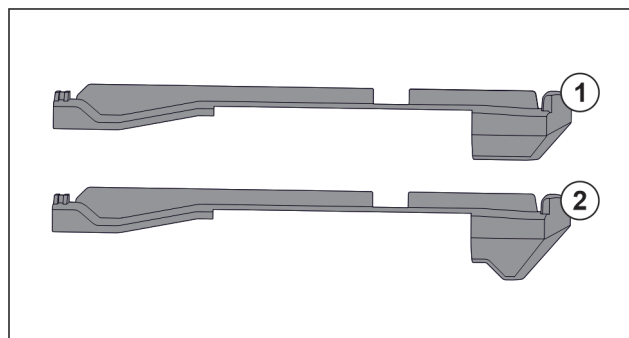

Fig. 113 Comparing attachments
There are two different attachments in the appliance. The attachment above the lowest drawer Fig. 113 (2) has a three-cornered edge. All other attachments Fig. 113 (1) have a straight edge.
- Fit attachment Fig. 113 (2) with the three-cornered edge above the lowest drawer.
- Fit attachment Fig. 113 (1) with straight edge in all other positions.